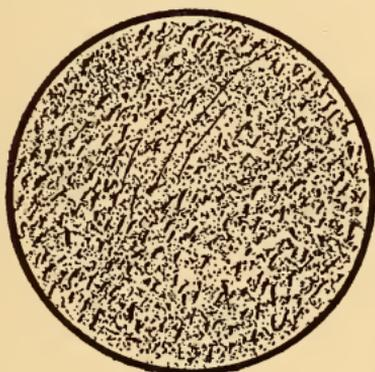

FIG. 59. DRAWN FROM A PHOTO-MICROGRAPH OF WHITE LEAD ( $\text{Pb}(\text{OH})\text{CO}_3$ )2)
*White lead*, see Fig. 59, is a *basic lead carbonate* ( $\text{Pb}(\text{OH})\text{CO}_3$ )2) and is made by the interaction of *acetic acid* ( $\text{HCO}_2\text{CH}_3$ ) with *lead oxide* ( $\text{PbO}$ ) or litharge, which results in a white powder. This is ground in oil by the paint manufacturer and it is then sold to the painter who mixes it with linseed oil, turpentine and colors. *Red lead*, or *minium* as it